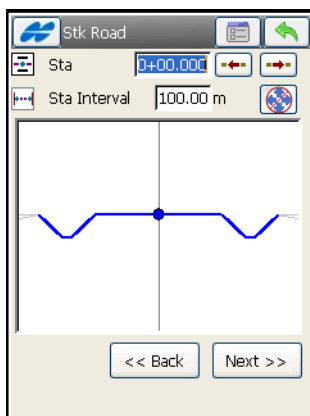

Figure 13-55. Road Surface
- **Next** – opens another *Stk Road* screen (Figure 13-55) to view the road cross-section at the station.